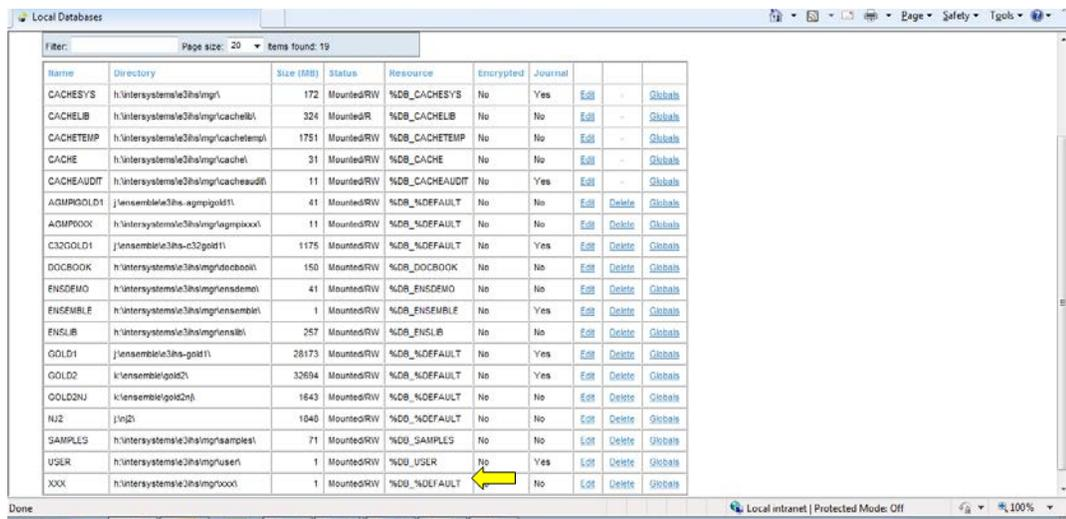

Figure 4-15: Finding the RPMS database resource
2. On the **Local Databases** page, locate the production RPMS database in the list and make a note of the resource associated with the database, as shown in Figure 4-15.